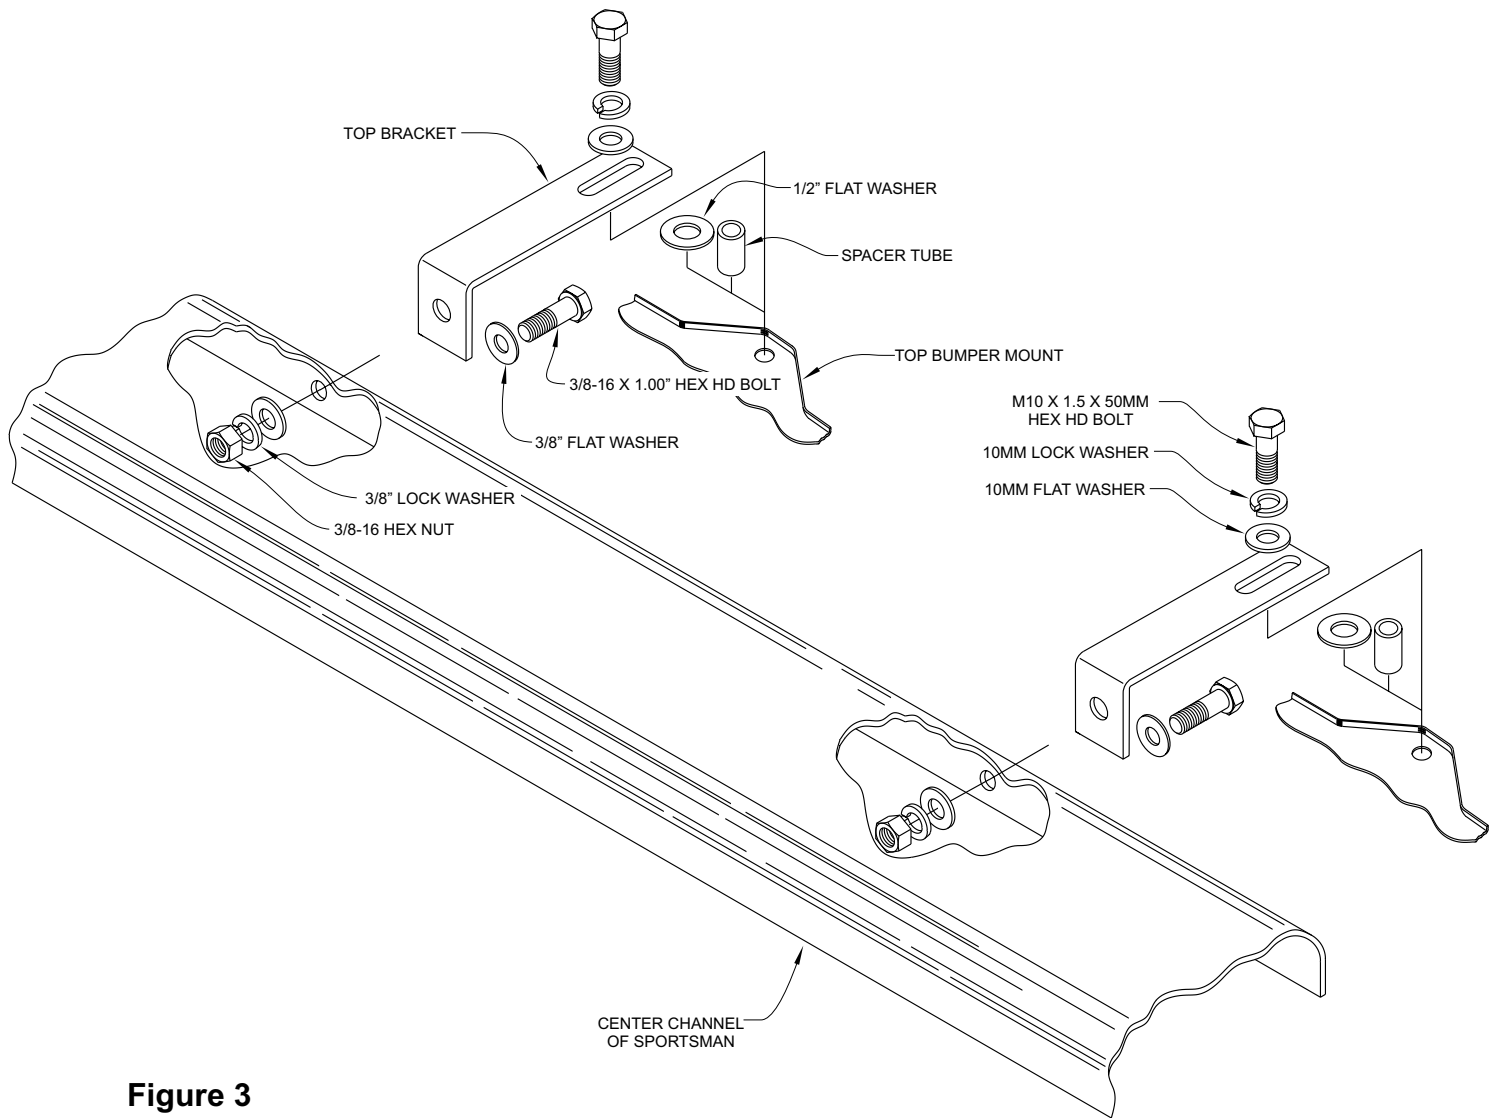

Figure 3
- STEP 6. To install Top Brackets, remove the (2) two 10mm factory bumper bolts from the top of the frame, located behind the topside of bumper. Replace on each side with Spacer Tube, Top Mount Bracket, 10mm Flat Washer, 10mm Lock Washer, and M10- 1.5 X 50mm Hex Head Bolt. (See note below). On Chevrolet models except the ZR2, the short end of the Top Mount Bracket should be facing down, and on the Chevrolet ZR2, GMC and Oldsmobile models the short end of the Top Mount Bracket should be facing up. (Fig 3).